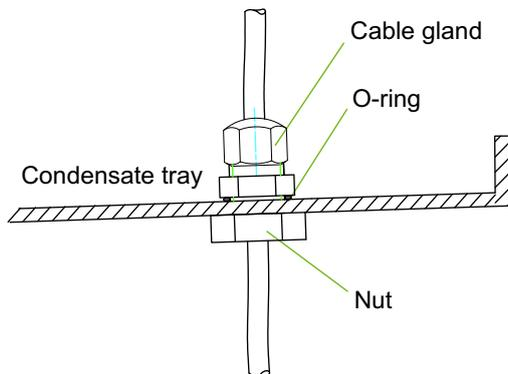

Fig. 1.4:
- 1) Drill a \varnothing 16 mm hole for an additional cable gland into the condensate tray close to an existing cable feedthrough and attach the supplied strain relief (see Fig.1.4 on pag. 2).